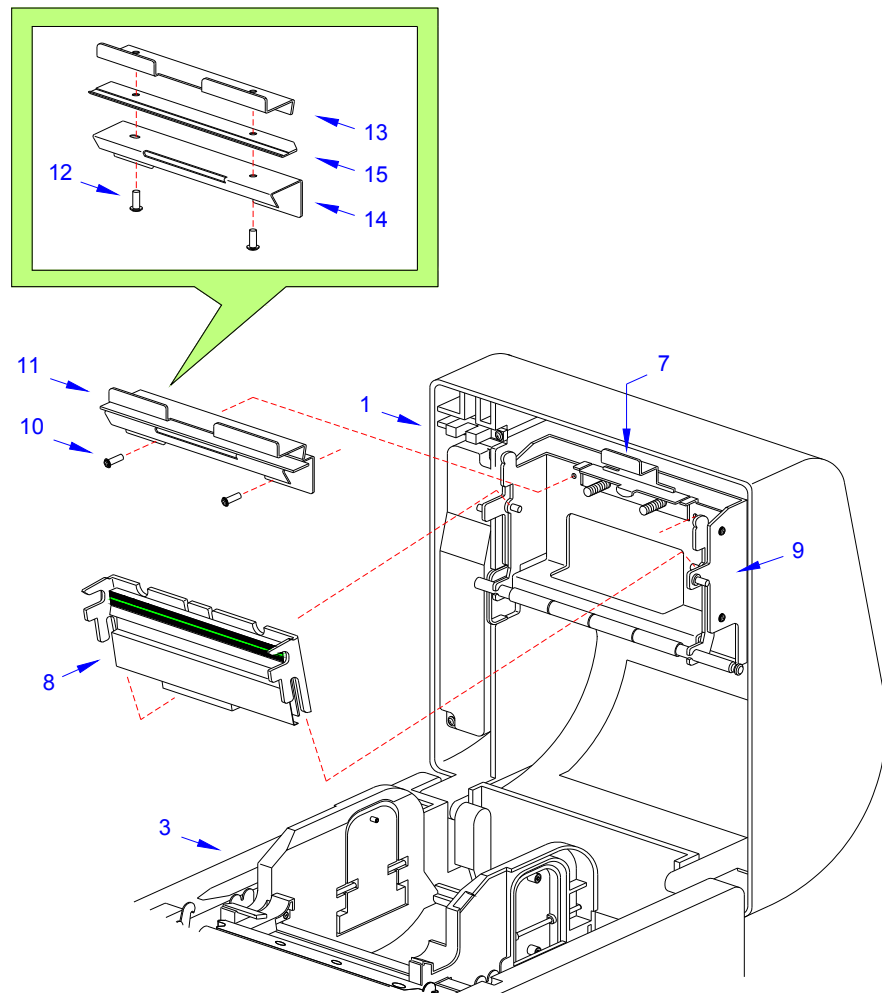

Figure 4-12b, Cutter Blade Installation
- 8 Press latch (7, Figure 4-12b) to release print head (8) from mounting bracket (9). Lift away print head (8).